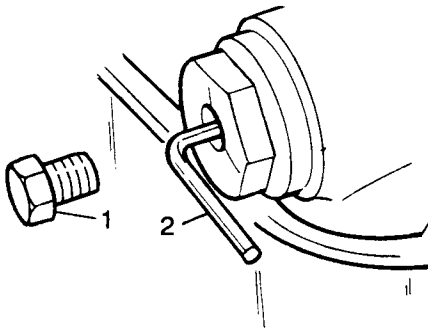

Fig B4.97
(4) Refer to Fig B4.97. Retract the timing chain tensioner by removing the chain tensioner adaptor screw (1), fitting a 3,17 mm allen key (2) and turning key 90° clockwise. Remove the Allen key.